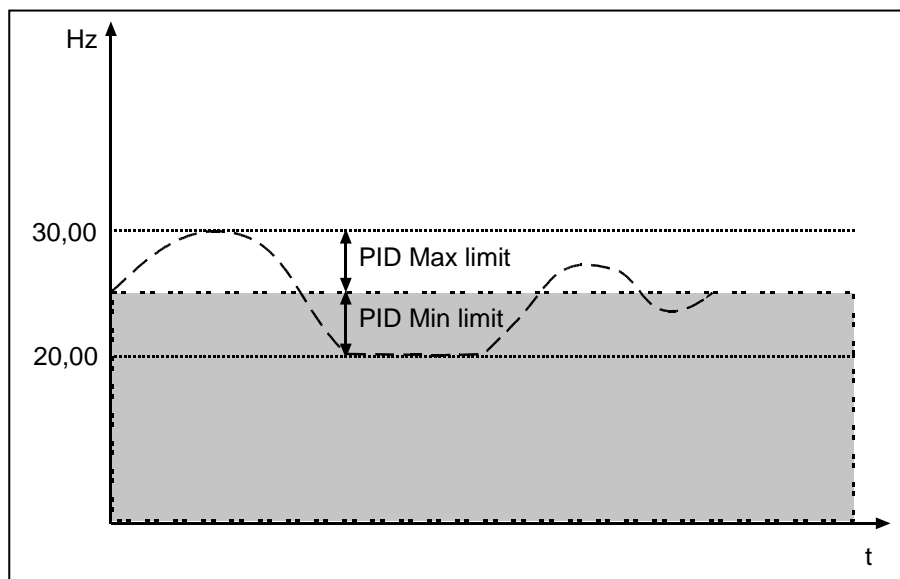

Figure 8-33. PID sum point reference
- If value 7 is selected for this parameter, the values of parameters ID319 and ID301 are automatically set to 13. See Figure 8-33.